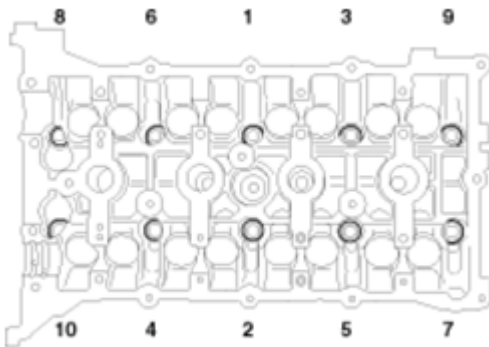

Fig. 44: Identifying Cylinder Head Bolts Torque Sequence
- B. Using the SST (09221-4A000), tighten the cylinder head bolts and plate washers, in several passes, in the sequence shown in **Fig. 44**.